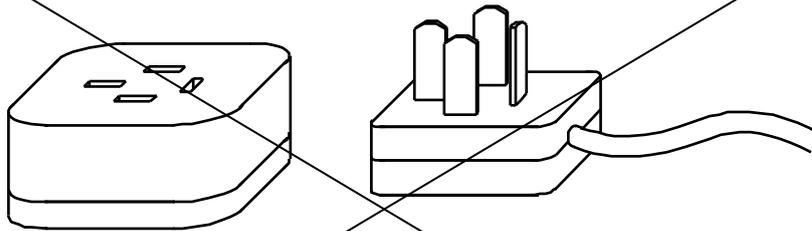

Figure 20 3-phase power plug with four feet
1) Turn on each vertical post and run it at idle speed before the first operation. First insert the 3-phase power plug with four feet of the main electric cabinet into the supply socket which is in the electric cabinet.(see fig 20)